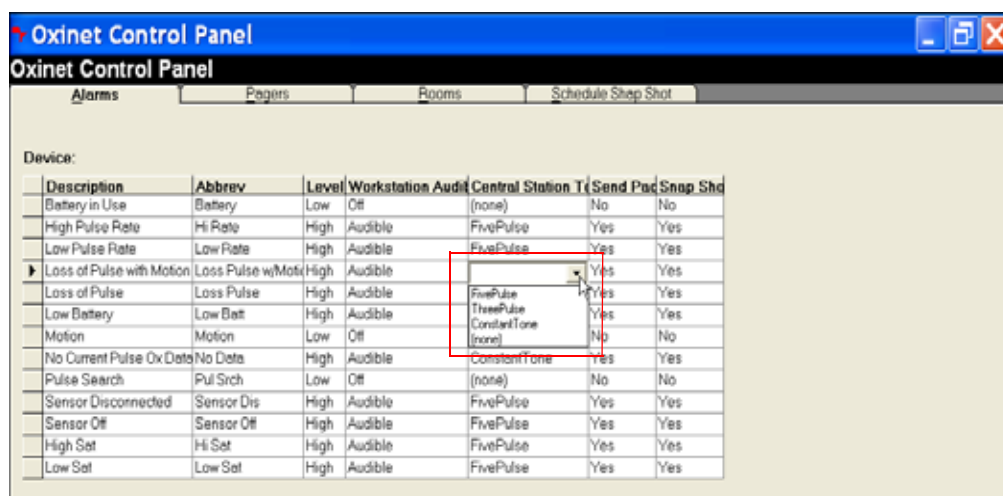

Figure 24: Alarms Menu
The **Alarms** menu (Figure 24) is the first screen that appears when the *Oxinet Control Panel* opens.
A drop-down arrow appears (Figure 24).
- 2 Press (or click) the arrow and the list of options appears as shown in Figure 24.